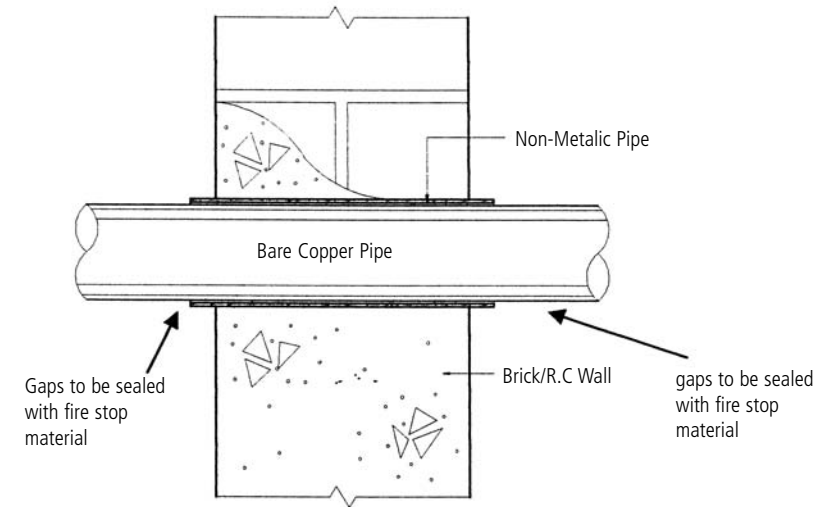

FIG. 5 PIPE PENETRATING THROUGH SOLID WALL OR FLOOR
4.3.1 Shall be protected by non-metallic sleeve or sheathed with a plastic material. Sleeve and penetration shall be sealed with an approved fire barrier / fire stop material. (Fig. 5)